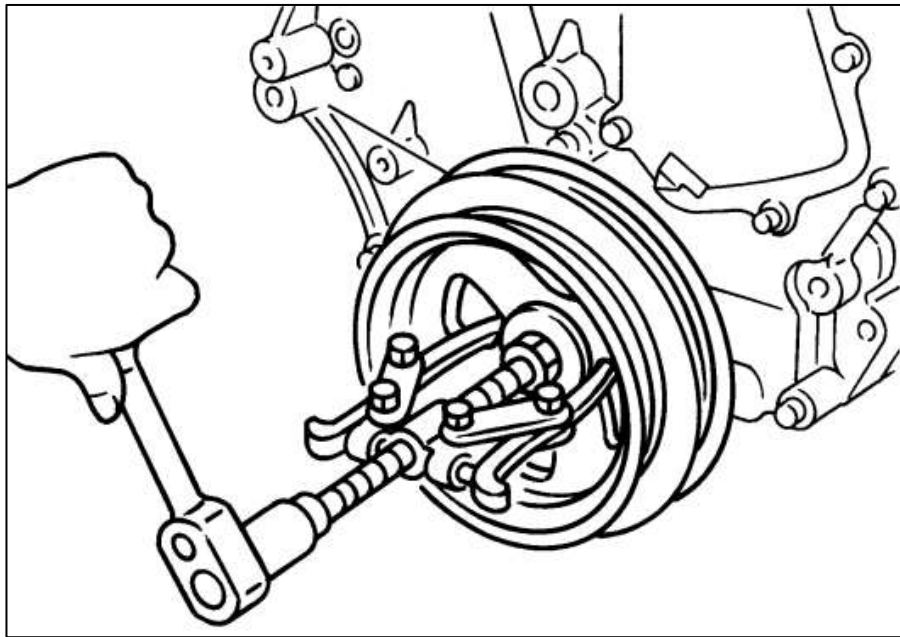

Figure 2
6. Using a Pulley Puller, remove the Crank Pulley from the Crankshaft Snout. *Figure 2.*